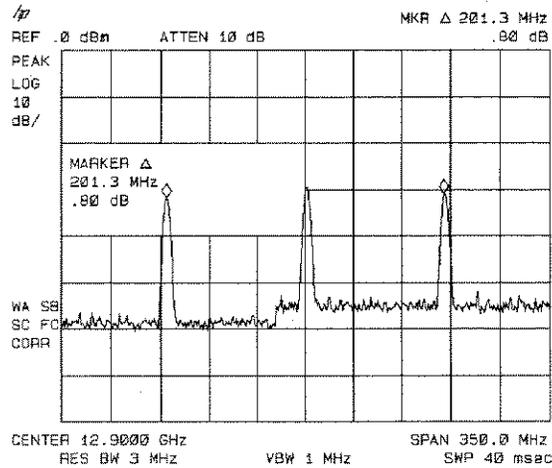

Figure 3-29. Harmonic Locking Off
7. Press **MARKER Δ**. Use **NEXT PK RIGHT** to place a marker on the farthest peak to the right. The marker readout displays the frequency and amplitude difference between the two comb teeth. See Figure 3-29.